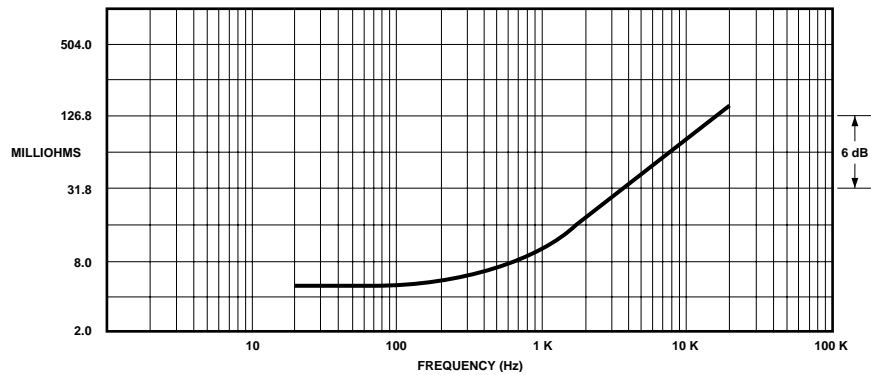

Figure 2.7 Typical Output Impedance
**Output Impedance:** Less than 10 milliohms in series with less than 2 microhenries (see Figure 2.7).